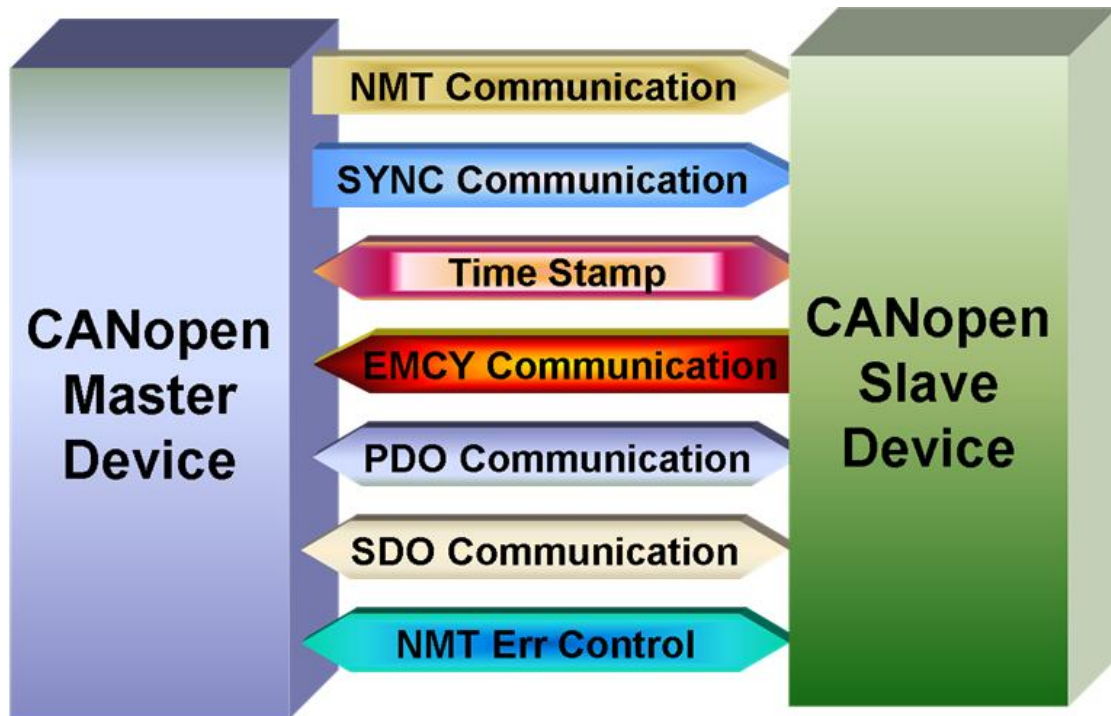

Figure 1.3 CANopen communication general concept
PISO-CPM100(U) follows the CiA CANopen specification DS-301 V4.01, and supports the several CANopen features. The CANopen communication general concept is shown as Figure 1.3.